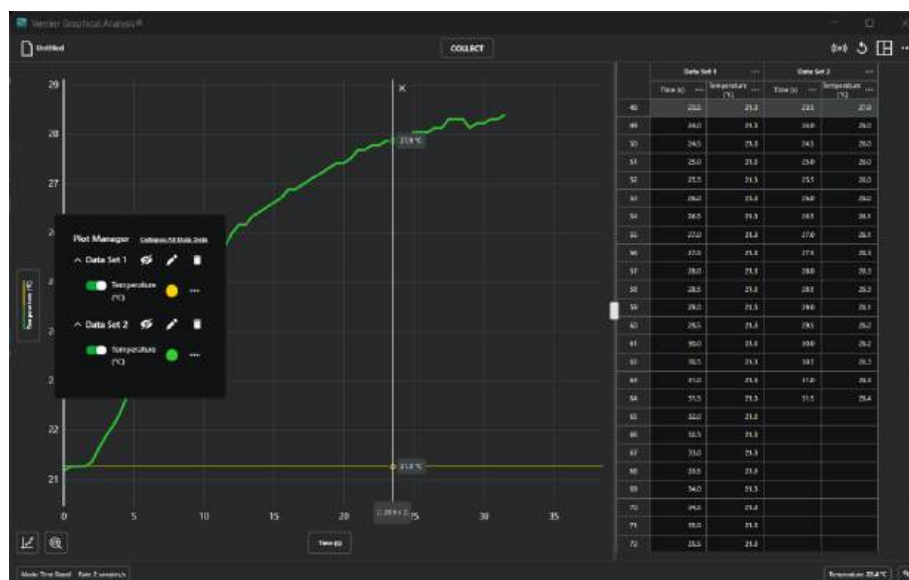

Figure 5: Examples of multiple data sets displayed on a single graph.
- Change the name of each data set by selecting the “Temperature” button on the left side of the plot and selecting the pencil image.. Label the data set as the name of the chemical used. You can also change the visibility of the data in the menu. Reference Figure 5 below.